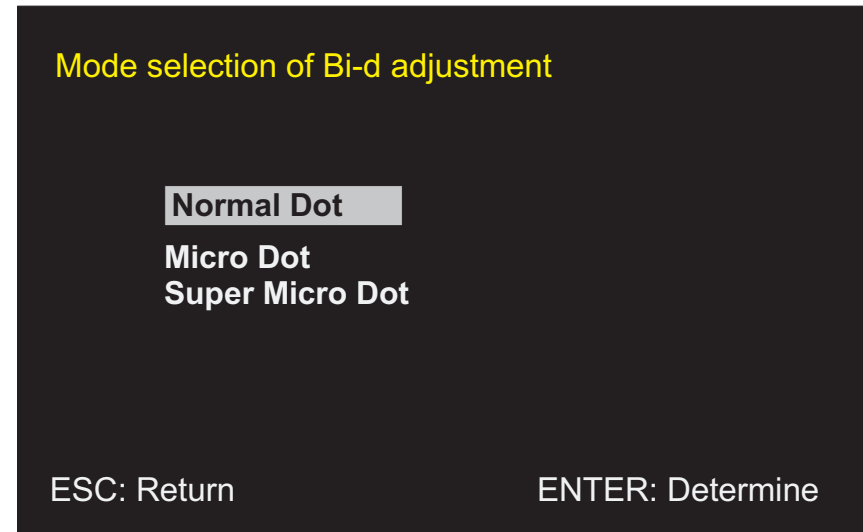

Figure 5-47. Selecting Dot Type
Step20. If you need to continue adjustment for other dot types, press ESC key one time and go back to the screen of figure5-47, then repeat Step17 through 19. If you need not to continue adjustment, move to Step21.